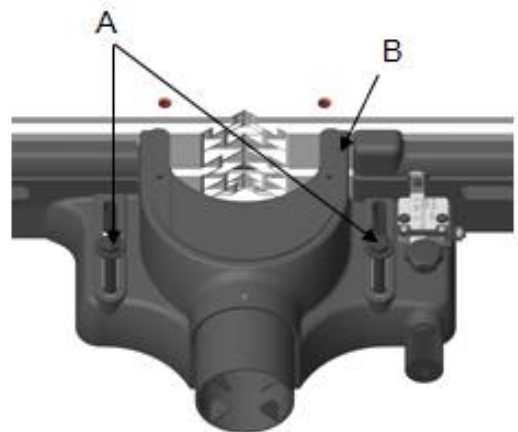

Fig. 1
1. Remove two hex cap screws and flat washers(A) that secure the fence assembly (B) to the table and discard (Fig. 1)
2. Set the fence assembly (B) aside to permit cleaning of the table.